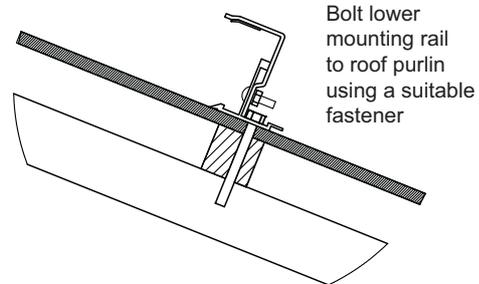

Figure 15 - Mount Lower Collector Rail
- Bolt the rail to the roof purlin using a suitable fastener as shown in **Figure 15**.